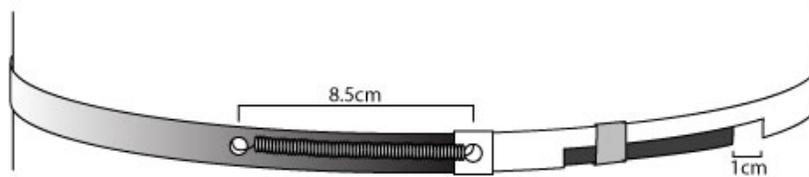

Figure 6: Completed dendrometer band
9. Slide the tail end back through the head. The next step is to punch a second hole in the band for the stainless steel spring to attach onto the dendrometer band. This spring keeps the band securely on the tree, without sliding up or down. You will need to measure from the center of the existing hole on the head end of the band 8.5 cm away from the window. Mark this spot. Use the single-hole punch to punch a hole at this mark. (see Figure 6)
12. Loosely wrap one of the stainless steel “clips” around the band where the tail end overlaps the window. This will keep the tail end from sliding up or down the tree. (The “clip” is the light grey band in Figure 6 below)